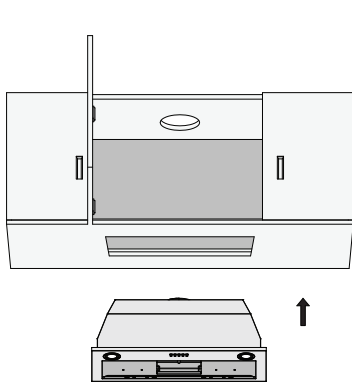

Figure 4
- Lift the range hood into cabinet or custom hood structure and attach to cabinet structure (see Figure 4).